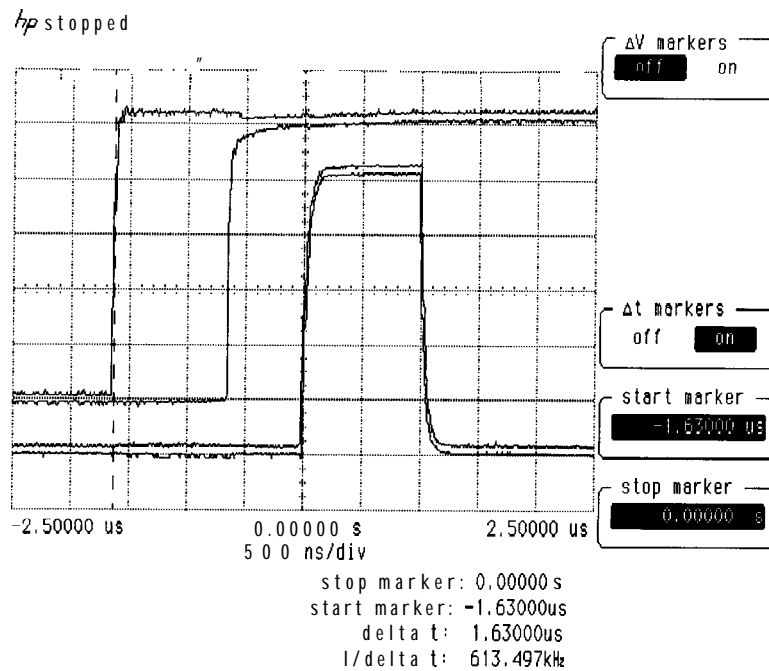

Figure 2-104. Oscilloscope Display of Minimum and Maximum Gate Delay Values
7. On the oscilloscope, press **start marker** . Use the knob to position the start marker on the right edge of the upper trace on the oscilloscope display. Figure 2-104 shows position for maximum gate delay.